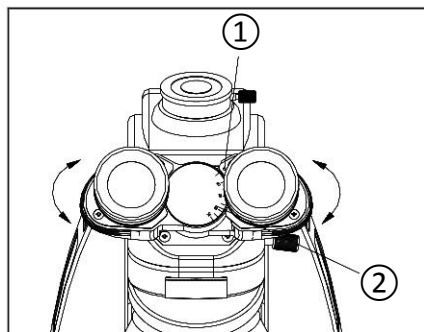

Fig. 11
Where “●” ① on the eyepiece tube lines up to the interpupillary scale ②, then that is the number for the interpupillary distance. Range: 50~75mm. (Fig. 11).